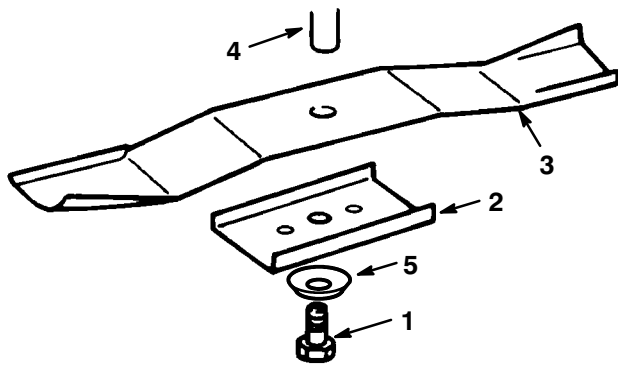

Figure 23
3. Remove the bolt (5/8 in. wrench), washer, retainer and blade (Fig. 23). A block of wood may be wedged between the blade and the mower to lock the blade when you are removing the bolt.